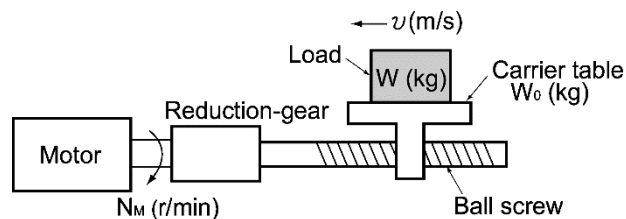

Fig. 10.3-1 Moving a load horizontally
A simplified mechanical configuration is assumed as shown in Fig. 10.3-1. If the mass of the carrier table is  $W_0$  (kg), the load is  $W$  (kg), and the friction coefficient of the ball screw is  $\mu$ , then the friction force  $F$  (N) is expressed as follows (Equation (Equation 10.3-3), which is equal to a required force for driving the load:
Assume a carrier table driven by a motor as shown in Fig. 10.3-1. If the table speed is  $v$  (m/s) when the motor speed is  $N_M$  (r/min), then an equivalent distance from the shaft is equal to  $60 \cdot v / (2\pi \cdot N_M)$  (m). The moment of inertia of the table and load to the shaft is calculated as follows ((Equation 10.3-13):